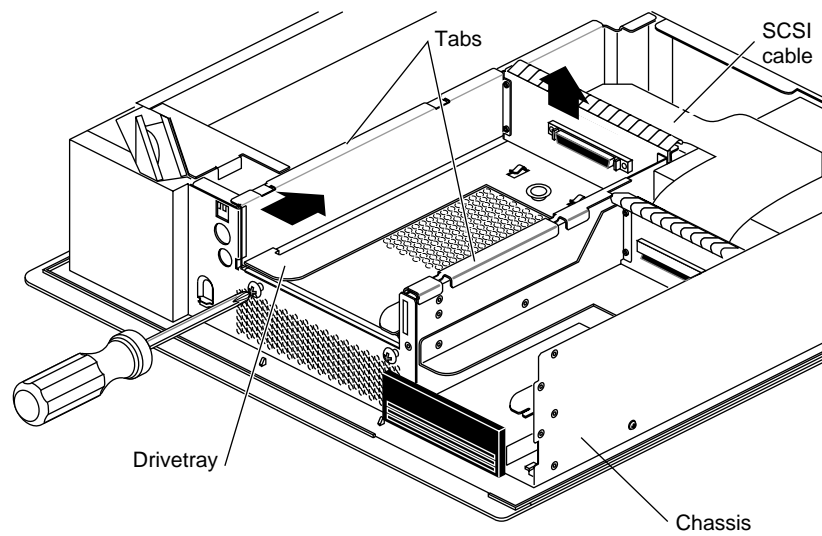

Figure 9-16 Removing the Drive Tray
- Push the drive tray toward the back of the workstation, and pull up on the tabs on the top of the drive tray to remove it, as shown in Figure 9-16.